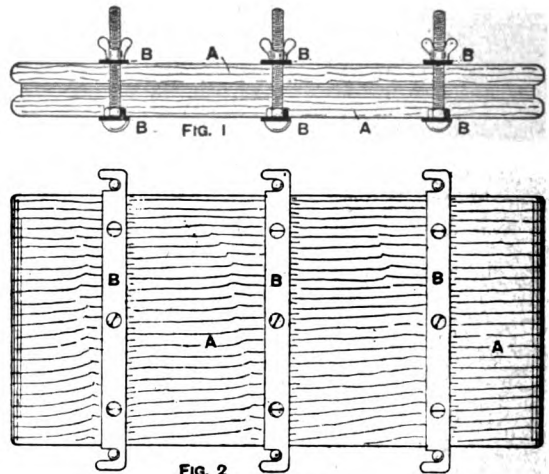

Fig. 2
are soldered on so as to cover up the holes in F. A piece of tube M, mitred as shown (Fig. 2), is soldered to L' and L'', the dotted lines showing the position, and another piece of tube, U-shaped (N, Fig. 3), is soldered to M. A nipple O, with a very fine hole in it, is screwed into N, the tube having another piece of metal soldered to it to provide thickness for the screw thread. On working the pump, the space in the reservoir above the oil will be filled with compressed air, which will force the oil up C, through J and K into L' and L'', round M, then into N, and out of the nipple O. Some of the oil is allowed to run into the hollow B, and is lighted. As soon as the burner gets hot enough to gasify the oil in the tubes the gas will issue from the nipple with a roar, ignite, and, as it passes through the centre of M, will turn the oil therein into gas, and so become self-acting. A nozzle or tube Q is attached as shown to concentrate the flame, and a handle and screw cap for filling must be added. A small air-tight tap must be soldered in the top of the reservoir so as to let the air escape when the lamp is done with. Experiment will show how much oil is wanted. If the flame is too large for general use, or if the burner gets choked by too much oil, the tube C can be pinched in a little at the bottom, or by making F a little taller a tap might be arranged for. Brass and hard solder must be used throughout.
**Making a Trousers Press.**—Figs. 1 and 2 show elevation and plan respectively of a simple trousers press, A A being two flat boards 14 in. wide and about 30 in. long. Three iron bars B are screwed on each board. The bars on the top board are hooked at their extremities, as shown in Fig. 2, to allow the board to be removed without taking off the wing-nuts. In Fig. 2 the wing-nuts are removed so as to show the slots. The bars on the under board are not hooked, but have holes at their extremities to receive coach bolts, which should be fixed
**Making a Spill Cutter.**—To make the spill cutter here described and according to the dimensions given in Fig. 1, a piece of wood some 8 in. by 1½ in. by 1½ in. must be obtained, and a groove about ½ in. wide and ½ in. deep cut along the centre of one of its broad sides. At one end this groove is further hollowed out as in Fig. 2, which shows the shape of the groove and also illustrates the slits, 2 in. long, in which the knife is to be fixed. Now cut from the bottom a strip of wood some 6 in. long and ½ in. thick, so as to leave a piece projecting from the under side at the rear end as shown in Figs. 1, 2, and 5. The knife itself is a piece of steel 2 in. long and 1½ in. wide, into the sides of which two holes have been drilled as indicated in Fig. 3. The edge (see side elevation B, Fig. 3) is ground sharp just like a chisel, after which the knife is placed in the slits previously cut in the block. Then find the correct positions for the holes DD (Fig. 2) in the wood, through
**Clip for Engineers' Scribing Block.**—The accompanying illustrations show a form of scribing block clip greatly in favour a few years ago, simply because turning, rather than fitting, was principally required. Fig. 1 shows the clip complete in elevation. It consists essentially of three pieces, the clip itself A, the square washer B, and the handle C. The clip is shown in plan by Fig. 2, and in end elevation by Fig. 3. It may be
made from square steel, drilled with a twist drill at one end to fit the post, this end, the left in Figs. 1 and 2, being rounded off to suit. The sides of these holes having been faced on a mandril in the lathe, these edges can be placed on any true surface, and centre lines scribed across at the ends. Or the piece can be placed on a mandril, and, the rounded end being centred, the ends of the mandril resting in V-blocks, the point of a knife tool is set to the mark, the tool withdrawn by the bottom slide only, the piece turned round, and the point of the tool moved up to mark the other end. The top slide must not be moved in these operations. Of course, the ends should have been prepared for scribing previously by filing and chalking. This method will ensure that the turned and threaded part shall be square with the hole, the mandril and a packing piece under the shank end being used in drawing the cross centre lines. The rest of the work presents no difficulty, but the face at D (Fig. 2) should be turned back just past the hole, a collar being formed at E. The turning down of the
shank at F is for ease in chasing the thread. G (Fig. 3) shows the slots left by the turning back at D (Fig. 2). Fig. 4 is a plan, and Fig. 5 an end elevation of the washer. The outer surface of this corresponds with the shape of the large end of the clip, and a recessed hole is bored in it, the larger end fitting on the collar E (Fig. 2), while the small hole slides over the threaded end of the clip. The washer is slit down the centre nearly but not quite to the bottom, a hole for the scriber having previously been drilled across as shown at the top of Fig. 1. The handle C (Fig. 1) is threaded to fit the screwed end of the clip. The cross section of the boss and of the handle itself is circular. The washer also may be circular instead of rectangular, and will then work easier on the post.
**Pattern for a Ship's Ventilator.**—To cut the pattern for a ship's ventilator in four pieces, first draw a side elevation of the required size, then divide the throat curve into a number of equal parts, corresponding to the number of sections required for the ventilator. Next divide the top curve, forming the top of the ventilator into the same number of equal parts used for the throat, and also draw the semicircle AG (Fig. 1). Join the division points on the throat and top curve by straight lines; these would show the four sections whose patterns are to be developed. As the method of working would be the same for each section, the method adopted for the section AG,  $a^2g^1$  (whose half-pattern is shown by Fig. 2), could be applied for developing the remaining three sections. A very near approximation to an accurate pattern is obtained by assuming that each section is a part of an oblique cone, and if this be done, the semicircle AG (Fig. 1) would be the half-plan of the base of an oblique cone containing the first section. Now join  $Aa^2$  and  $G^1g^1$ , and also draw a line from  $g^1$  parallel to AG to cut  $Aa^2$ ; then this line could be assumed to show the smaller end of the frustum of the cone on the elevation. Draw projectors from  $a^1g^1$  to join AG, and with half this length as radius draw the semicircle  $ag$  to show the plan of the small end. Next divide the semicircles into a similar number of equal parts as A, B, C, a, b, c, etc. From the division points B, C, D, E, F draw projectors to A  $g^1$ , and from b, c, d, e, f draw projectors to join  $a^1g^1$ . Join  $B^1b^1$ ,  $C^1c^1$ ,  $D^1d^1$ ,  $E^1e^1$ ,  $F^1f^1$ ,
drawn from  $b^1$ ,  $c^1$ ,  $d^1$ ,  $e^1$ ,  $f^1$  join the lines with corresponding letters in plan; draw lines from the points found at right angles to the plan lines, and on these lines mark off the perpendicular height of  $b^1$ ,  $c^1$ ,  $d^1$ ,  $e^1$ ,  $f^1$  when measured from the line  $a^1g^1$ . Now join b, c, d, e, f to their respective upright heights, marked on each right angle to obtain the true slants of the lines produced to cut  $a^1g^1$ . To work the pattern, mark on a straight line the length  $A^1a^1$  (Fig. 1). With the true length of the diagonal joining a to B as radius, and using  $a^1$  (Fig. 2) as centre, draw an arc; with the division length AB as radius and  $A^1$  (Fig. 2) as centre, cut the arc first drawn. Next, with the true slant of the line Bb as radius, and using B1 on the pattern as centre, draw an arc. With the division length a b as radius, and  $a^1$  on the pattern as centre, cut the arc last drawn at  $b^1$ ; this would give the points  $A^1a^1$ ,  $B^1b^1$  on the pattern. The remaining points are obtained by repeating the working for each division, using the slants and diagonals in their proper order for obtaining the points  $C^1c^1$ ,  $D^1d^1$ ,  $E^1e^1$ ,  $F^1f^1$  to complete the top part of the pattern. Join the points  $A^1a^1$ ,  $B^1b^1$ , etc., on the pattern by straight lines, and produce them below the inner curve, then add the length  $a^1a^1$  (Fig. 1) from  $a^1$  to  $a^1$  on the pattern. Transfer the true slant of the line  $b^1b^1$  (obtained from the triangle drawn on the plan) to the pattern, marking from  $b^1$  to give the point  $b^2$ ; transfer the remaining true slants to the stripes with corresponding letters on the pattern, and draw a curve through these points to finish the half pattern for one section. By repeating the method of working shown for each section, the pattern for the complete ventilator would be obtained. Allowances for hollowing, seams, etc., must be made to the pattern as shown.